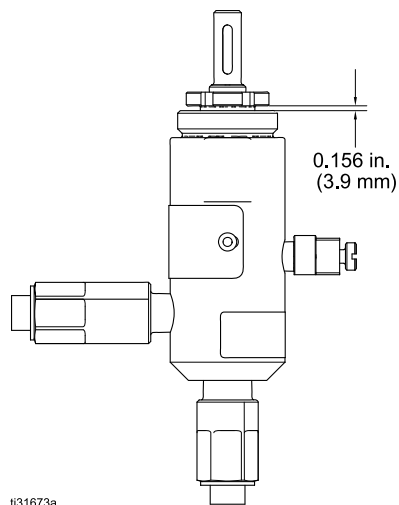

FIG. 8 Tightening the packing nut
4. Reinsert the packing nut (104), packing (103), and bearings (102) into the fluid cylinder (101). Tighten packing nut (104) to distance as shown in FIG. 8.